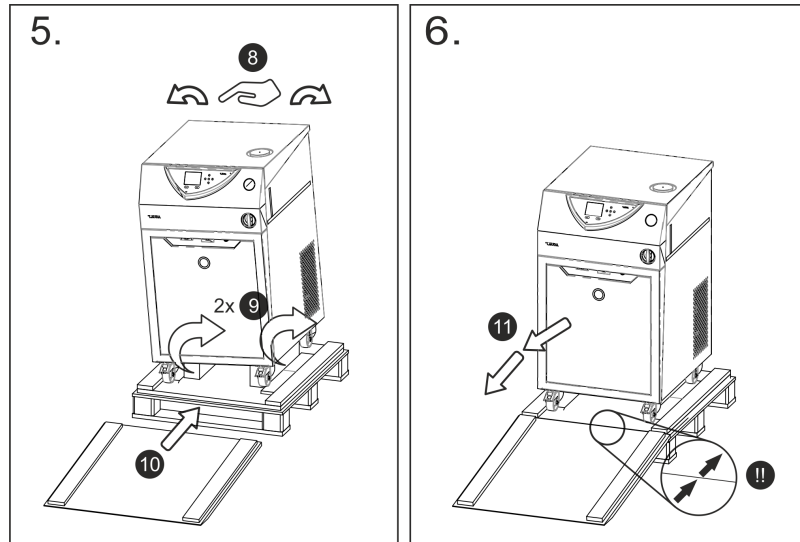

Fig. 4: Graphic of unpacking instructions for VC 5000
5. Remove the foam material ⑥ from the device and the corners ⑦.
6. Fig. 4: The device has been unpacked.